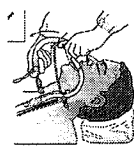
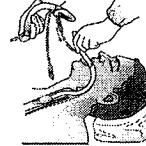

Figure 7
Figure 8
5. Remove the LMA™ Stabiliser Rod when the LMA Fastrach™ cuff is clear of the mouth while holding the ETT in place to prevent accidental dislodgment (Fig.7). Grasp the ETT firmly while gently unthreading the inflation line and pilot balloon from the LMA Fastrach™ tube (Fig.8). **Caution:** Failure to remove the LMA™ Stabiliser Rod from airway tube before completely removing the LMA Fastrach™ may result in the ETT being accidentally pulled out or the pilot balloon or inflation line tubing being damaged.